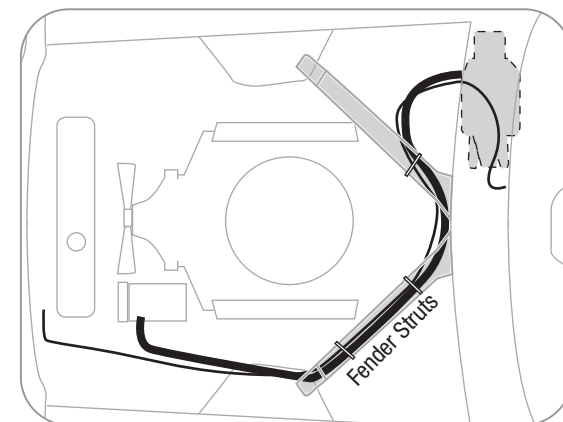

FIGURE 34
**STEP TEN:** Connect the pressure switch by first connecting one wire to the connection on the compressor, and the other wire will be routed along with the liquid hose along the underside of the fender supports and connected to the blue lead you put thru the firewall during the interior installation (for attachment route, see figure 34). We've included a bullet and slice connector to make these connections, use a crimp tool to secure these properly.